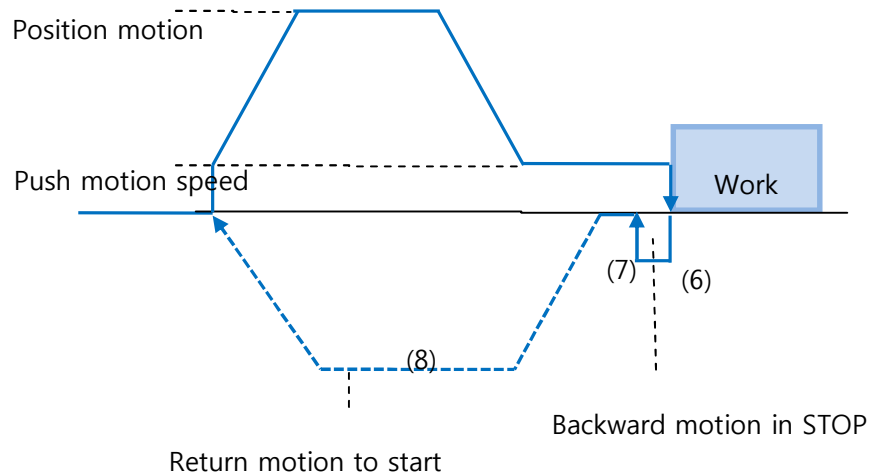

Figure 10.6.2
⑥ Additional the next step is needed as below diagram (Figure 10.6.2).